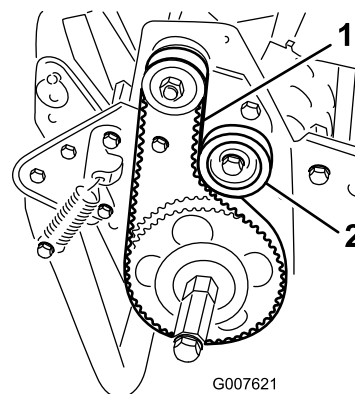

Figure 38
2. Check the tension by pressing the belt at mid span of the pulleys (Figure 38) with 18 to 22 N (4 to 5 lb) of force.
- A. Loosen the idler-pulley mounting nut and pivot the idler pulley clockwise against the backside of the belt until the desired belt tension is attained (Figure 38).